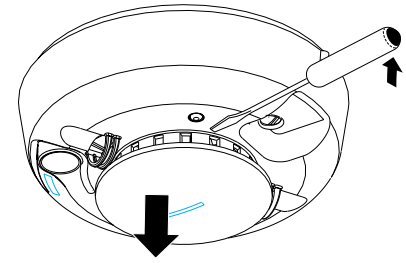

Figure 5. Removing Detector Cap
4. Slide a flat-blade screwdriver in the slot on the detector cap and gently push the handle down to pry the detector cap up and off. See Figure 5.